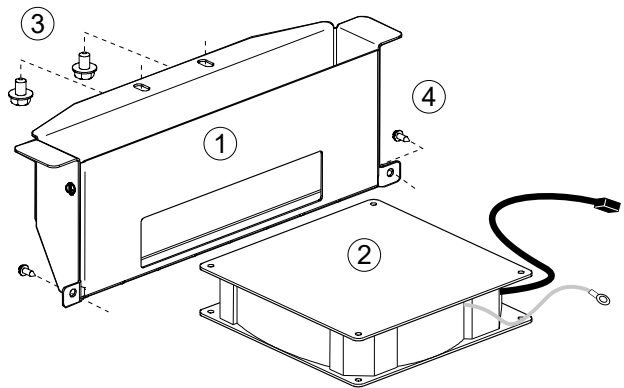

Figure 17.7
2. You can attach the Leg Bracket to a Utility Cover Plate with the M8 x bolt provided with the stove as shown in fig. 17.7 on the preceding page. You will need an open end wrench.